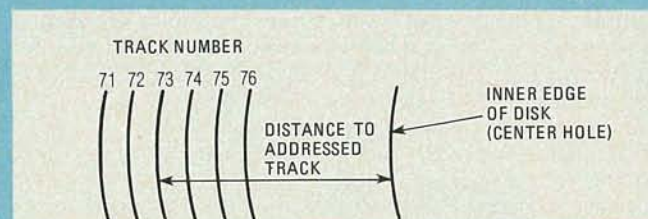

FIG. 2—THE SURFACE of the floppy disk is divided magnetically into concentric tracks for data storage.
To allow more rapid access of data on a floppy disk, a series of concentric tracks is arranged, with each track located at a specific distance from the center (or the edge) of the disk, as shown in Fig. 2. Now each track can be identified easily or addressed by its specific location. Although there is a standard number of tracks (77) in the IBM 8-inch disk format, some manufacturers use different numbers of tracks. Some floppy disks are single-sided, with data stored on one side of the disk, while others are available with tracks and data stored both sides (double-sided floppies).